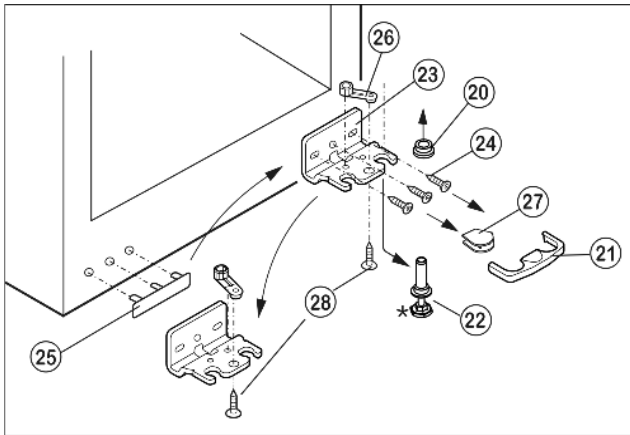

Fig. 6
- ▶ Draw the safety lock Fig. 6 (21).
- ▶ Remove the cover Fig. 6 (27).\*
- ▶ Fully retract the adjustable-height foot Fig. 6 (22).
- ▶ Pull out the bearing pin Fig. 6 (22) downwards and forwards. In so doing, pay attention to the hinge bush Fig. 6 (20).
- ▶ Unscrew the turn hinge Fig. 6 (23) (3 Torx 25) Fig. 6 (24).
- ▶ Unscrew the bearing part Fig. 6 (26) (1 Torx 25), Fig. 6 (28).
- ▶ Carefully lift off and transfer the cover Fig. 6 (25) on the handle side.
- ▶ Screw the turn hinge Fig. 6 (23) firmly into place on the new hinge side, possibly using a cordless screwdriver (**with 4 Nm**).
- ▶ Place the cover Fig. 6 (27) on the opposite side.\*
- ▶ The safety lock (21) has to engage with the turn hinge at the side so that the bearing pin and therefore the door are secured.
- ▶ Snap the safety lock (21) onto the turn hinge again.
- ▶ Put on the hinge bush Fig. 6 (20).
- ▶ Place the lower door from above onto the lower bearing pin Fig. 6 (22).
- ▶ If necessary, align the doors to the appliance housing by way of the two oblong holes in the lower turn hinge Fig. 6 (23) and middle turn hinge Fig. 5 (13). To do so, unscrew the middle screw in the lower turn hinge Fig. 6 (23).